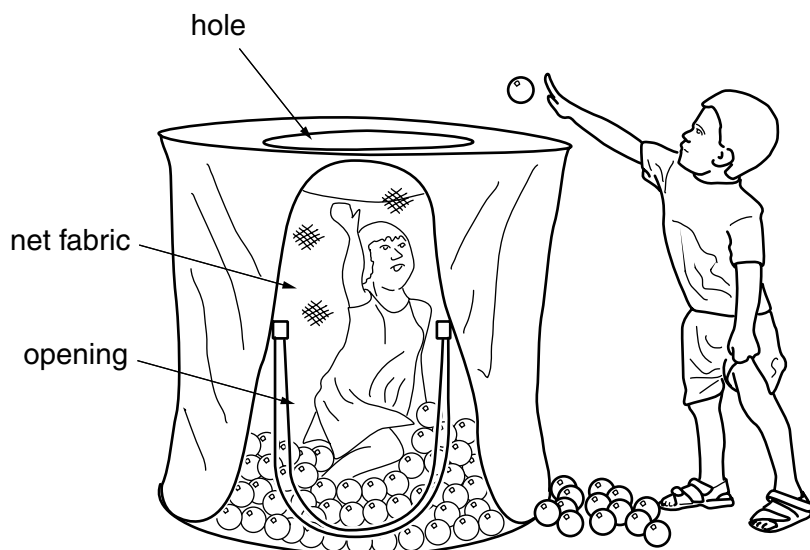

Fig. 7
7 Fig. 7 shows a children's ball pit play tent made for outdoor use.
- (b) Describe the order of manufacture of the ball pit play tent shown in Fig. 7. Use sketches where appropriate. [8]